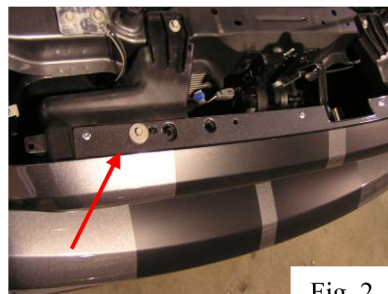

Fig. 2
- 10) Remove the two bolts retaining the top of the bumper to the core support (Fig. 2).